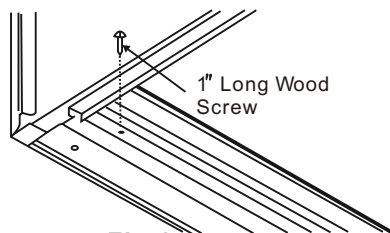

Fig.6
4. Secure bottom rail to wood frame with two large wood screws 1" (2.5cm) long using the two holes in the bottom of the channel resting on frame. (See Fig.6.)